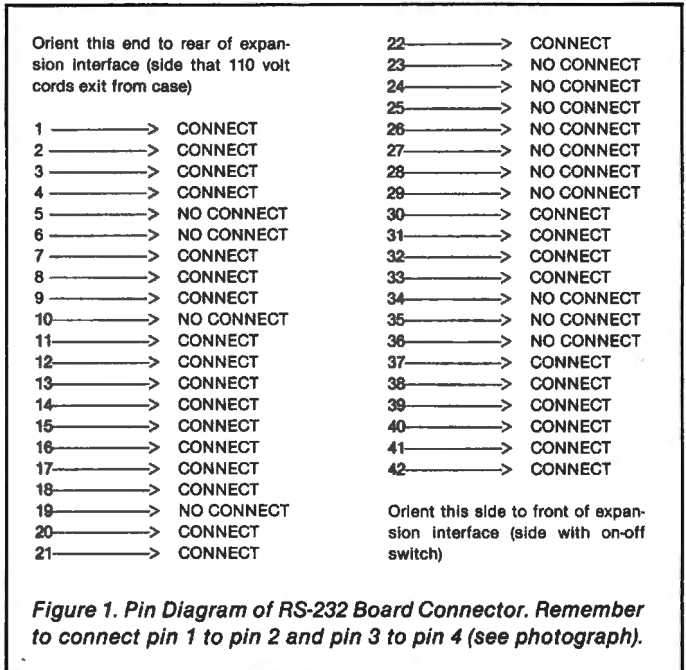

Figure 1. Pin Diagram of RS-232 Board Connector. Remember to connect pin 1 to pin 2 and pin 3 to pin 4 (see photograph).
Step 4—Very carefully tin the 28 pins (Fig. 1) on the connector